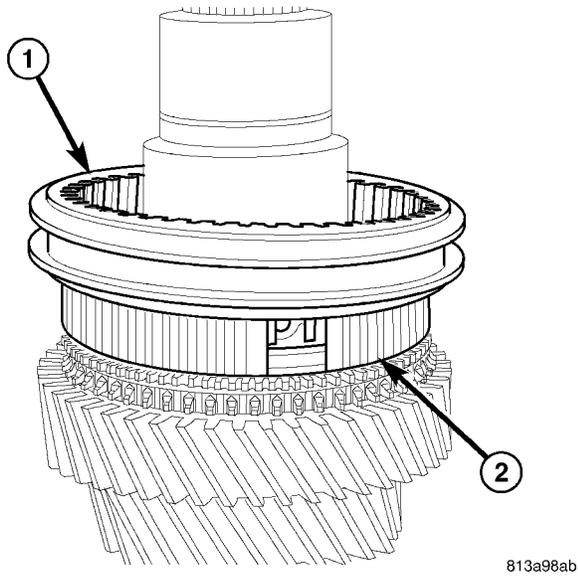

Fig. 33 1-2 SYNCHRO SLEEVE
(18) Remove 1-2 synchronizer sleeve (1) (Fig. 33) from synchronizer hub (2).